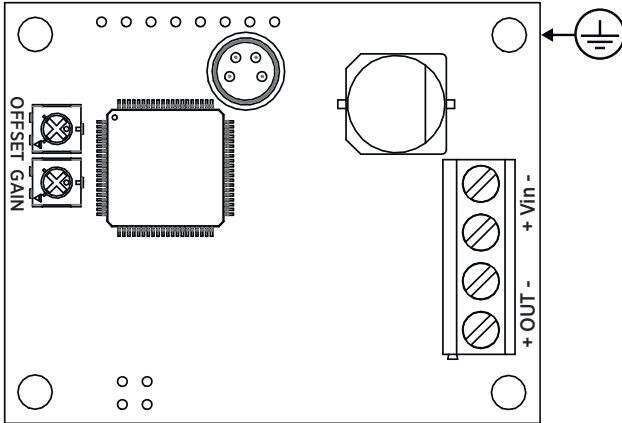

Figure 1 Component Board (3-wire Version)
- ▶ 1. Attach the module securely using the mounting holes on the corners of the component board. Use the optional mounting bracket if needed. Be sure to provide an earth connection from the plated mounting hole. See Figure 1 \(page 2\). Refer to the *HMM100 User Guide (M211024EN)* for Vaisala order codes of accessories.